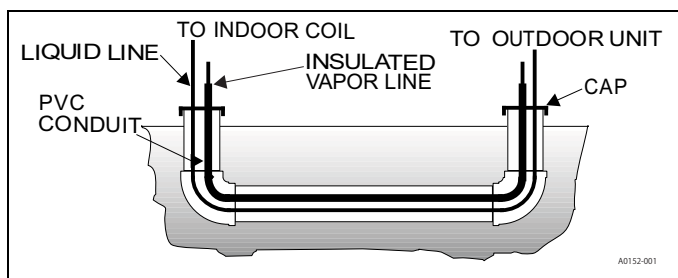

Figure 4: Underground installation
- Use PVC piping as a conduit for all underground installations as shown in Figure 4. Buried lines should be kept as short as possible to minimize the build up of liquid refrigerant in the vapor line during long periods of shutdown.